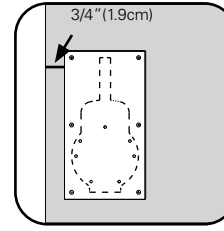

Figure 2
- 1.2 Move Pürleve Door Plate approximately 3/4" (19mm) in from door edge (lines on Template can be used for 3/4" placement) - (Fig. 2)